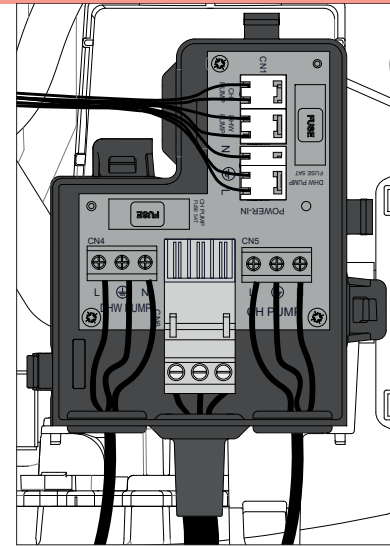

Figure 4 - 120V Connections for DHW and CH Circulators
6. Connect the cable on the connector CN5 (CH pump) and CN4 (DHW pump). See Electrical Wiring Diagram, Figure 4.